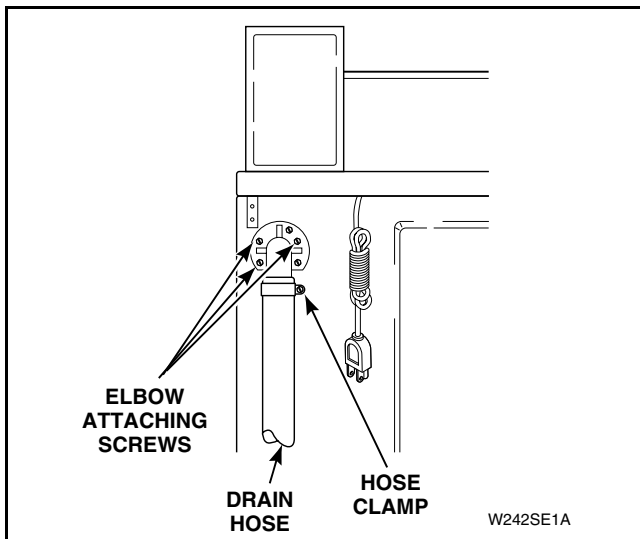

Figure 26
- a. Loosen hose clamp and remove drain hose from elbow. Refer to *Figure 26*.
- b. Remove screws holding elbow to rear of washer cabinet. Refer to *Figure 26*.